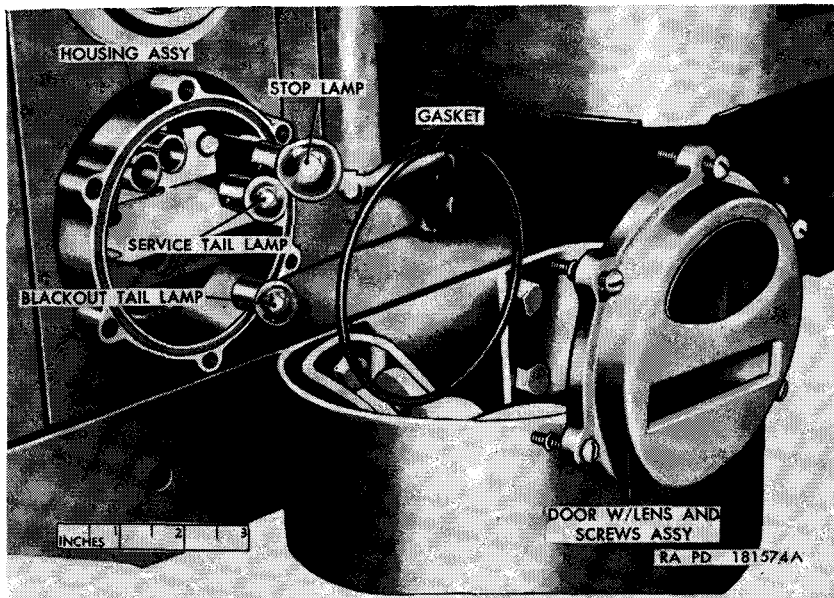

Figure 78. Service taillight and stoplight assembly—partially exploded view.
- (1) Position the mounting pad on the rear of the headlight housing with the mounting holes in the pad alined with those in the housing.
- (2) Position the housing with mounting pad in the radiator grille and secure with eight No. 10 x 1/2 lockwasher screws (fig. 78).
- (3) Slip the rubber grommet over the headlight cables, and insert cables and grommet in headlight housing.
- (4) Install the headlight sealed lamp-unit (a(2) above).
- (2) *Removal.* Remove two cables from the clip on the back of the housing assembly, pull the cables out until the cable connectors are exposed, and uncouple both connectors. Remove two bolts and lockwashers securing the blackout taillight and stoplight assembly and remove the assembly.
- (3) *Installation.* Insert the connectors through the hole in the blackout taillight and stoplight assembly mounting bracket, position the assembly on the bracket, and secure with two  $\frac{3}{8}$  x  $\frac{5}{8}$  bolts and lockwashers. Couple the connectors in accordance with the cable numbers.
- b. *Service Taillight and Stoplight Assembly (Left) (fig. 78).*
- (1) *Lamp replacement.* Refer to a(1) above.
- (2) *Removal.* Remove two lockwasher screws securing the taillight and trailer connection guard to the body left rear panel. These screws are located near the left rear corner of the body, one screw below the reflector and one above the reflector. Remove two lockwasher screws securing the guard to the body side panel. These screws